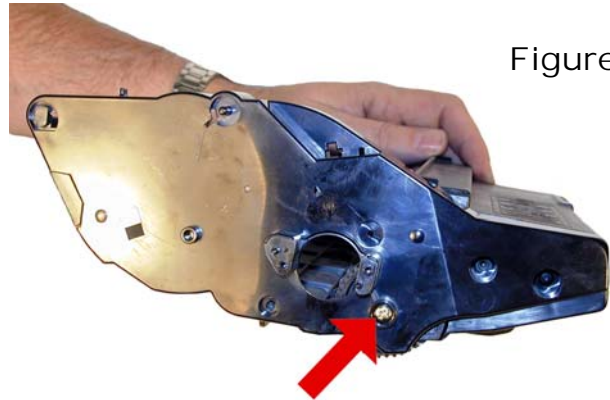

Figure 60
54) Install the gold screw into the drum axle. See **Fig.60**